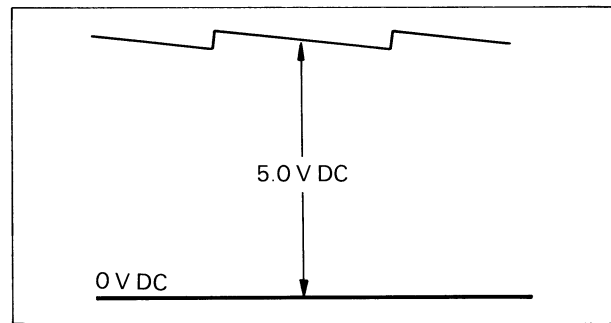

Fig. 5-5. Discriminator output waveform at TP-6
2. Adjust R46 (Discri Adj) so that the waveform at TP-6 becomes as shown in Fig. 5-5, 5.0 volts DC, while in the REC mode.